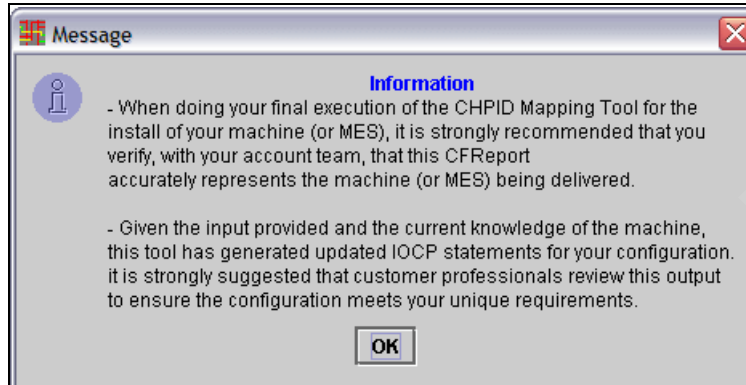

Figure 6-33 CMT - informational message
3. The CHPID Mapping Tool displays an informational message regarding what to do for the final execution of the tool (Figure 6-33).